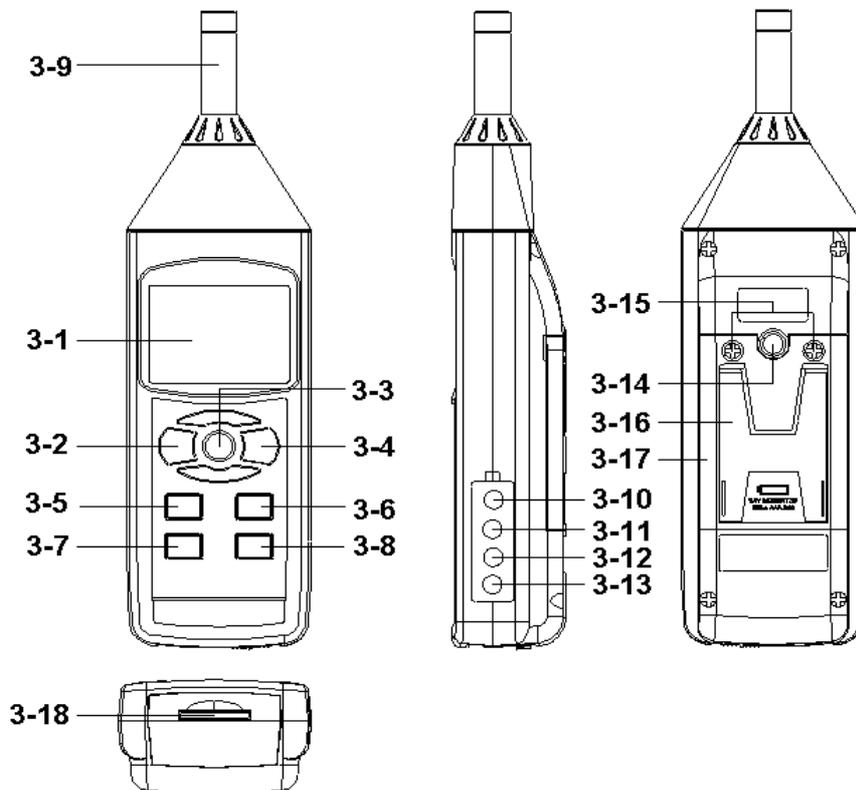

Fig. 1
- 1) Power on by pressing the " Power On/Off Button " ( 3-2, Fig. 1 ) , the meter's default function is " Auto range ", " A frequency weighting " & " Fast time weighting ". The LCD display will show the unit " A. Fast Auto ".
- 2) Select " A " or " C " frequency weighting by pressing the " A/C Button " ( 3-6, Fig. 1 ) .
- 3) Determine proper measuring range by pressing the " Range Button " ( 3-5, Fig. 1 ).
Under the auto range, press the " Range Button " ( 3-5, Fig. 1 ) once step by step will enter to the manual range ( range 1, range 2, range 3 ) and auto range in sequence. There are still 3 manual ranges for your choice :
4) According to various measuring sound source, select the Time Weighting ( Fast or Slow ) by pressing the " Time Weighting Button " ( 3-7, Fig. 1 ).
During the measurement, press the " Hold Button " ( 3-3, Fig. 1 ) once will hold the measured value & the LCD will display a " HOLD " symbol.
1) The data record function records the maximum and minimum readings. Press the " REC Button " ( 3-4, Fig. 1 ) once to start the Data Record function and there will be a " REC " symbol on the display.
- a) Press the " REC Button " ( 3-4, Fig. 1 ) once, the " REC MAX " symbol along with the maximum value will appear on the display.
If intend to delete the maximum value, just press the " Hold Button " ( 3-3, Fig. 1 ) once, the display will show the " REC " symbol only & execute the memory function continuously.
- b) Press the " REC Button " ( 3-4, Fig. 1 ) again, the " REC MIN " symbol along with the minimum value will appear on the display.
If intend to delete the minimum value, just press the " Hold Button " ( 3-3, Fig. 1 ) once, the display will show the " REC " symbol only & execute the memory function continuously.
After power ON, the " LCD Backlight " will light automatically. During the measurement, press the " Backlight Button " ( 3-2, Fig. 1 ) once will turn OFF the " LCD Backlight " .
Prepare a " SD memory card " ( 1 GB to 16 GB, optional ), insert the SD card into the " SD card socket " ( 3-18, Fig. 1). The front panel of the SD card should face against the the down case.
Press the " REC Button ( 3-4, Fig. 1 ) once , the LCD will show the text " REC ", then press the " Logger Button " ( 3-8, Fig. 1 ), the " REC " will flashing , at the same time the measuring data along the time information will be saved into the memory circuit.
During execute the Datalogger function , if press the " Logger Button " ( 3-8, Fig. 1 ) once will pause the Datalogger function ( stop to save the measuring data into the memory circuit temporally ). In the same time the text of " REC " will stop flashing.
*If press the " Logger Button " ( 3-8, Fig. 1 ) once again will execute the Datalogger again, the text of " REC " will flashing .*
During pause the Datalogger, press the " REC Button " ( 3-4, Fig. 1 ) continuously at least two seconds, the " REC " indicator will be disappeared and finish the Datalogger.
Press the " REC Button ( 3-4, Fig. 1 ) once , the LCD will show the text " REC ", then press the " Logger Button " ( 3-8, Fig. 1 ) once, the " REC " will flashing once, at the same time the measuring data along the time information and the Position no. will be saved into the memory circuit.
*\* During execute the Manual Datalogger, press the " SET Button " ( 3-7, Fig. 1 ) once, then use the " ▲ Button " ( 3-5, Fig. 1 ) or " ▼ Button " ( 3-6, Fig. 1 ) to set the measuring position ( 1 to 99, for example room 1 to room 99 ) to identify the measurement location. After finish the adjustment location no., press the " Enter Button " to entry.*
Press the " REC Button " ( 3-4, Fig. 1 ) continuously at least two seconds, the " REC " indication will be disappeared and finish the Datalogger.
During the measurement if press " Time check Button " ( 3-5, Fig. 1 ) > 2 seconds, the lower LCD display will present the time information of Year/Month, Date/Hour, Minute/Second.
During the measurement , If press " Sampling Check Button " ( 3-6, Fig. 1 ) > 2 seconds, the lower LCD display will present the Sampling time information in second unit.